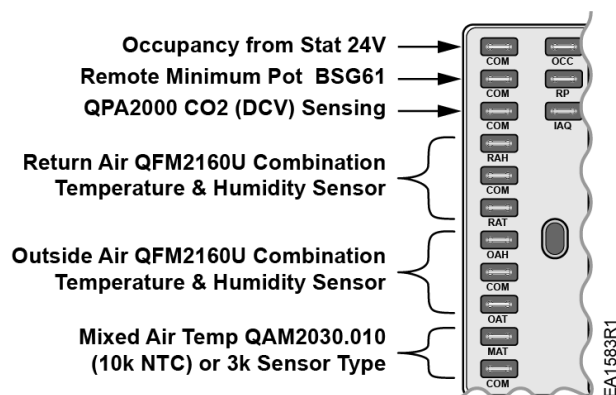

Figure 4. QFM2160U Combination Temperature/Humidity Sensor Connections.
2. Connect the sensor to the IAQ and COM terminals of the controller. See Figure 4.